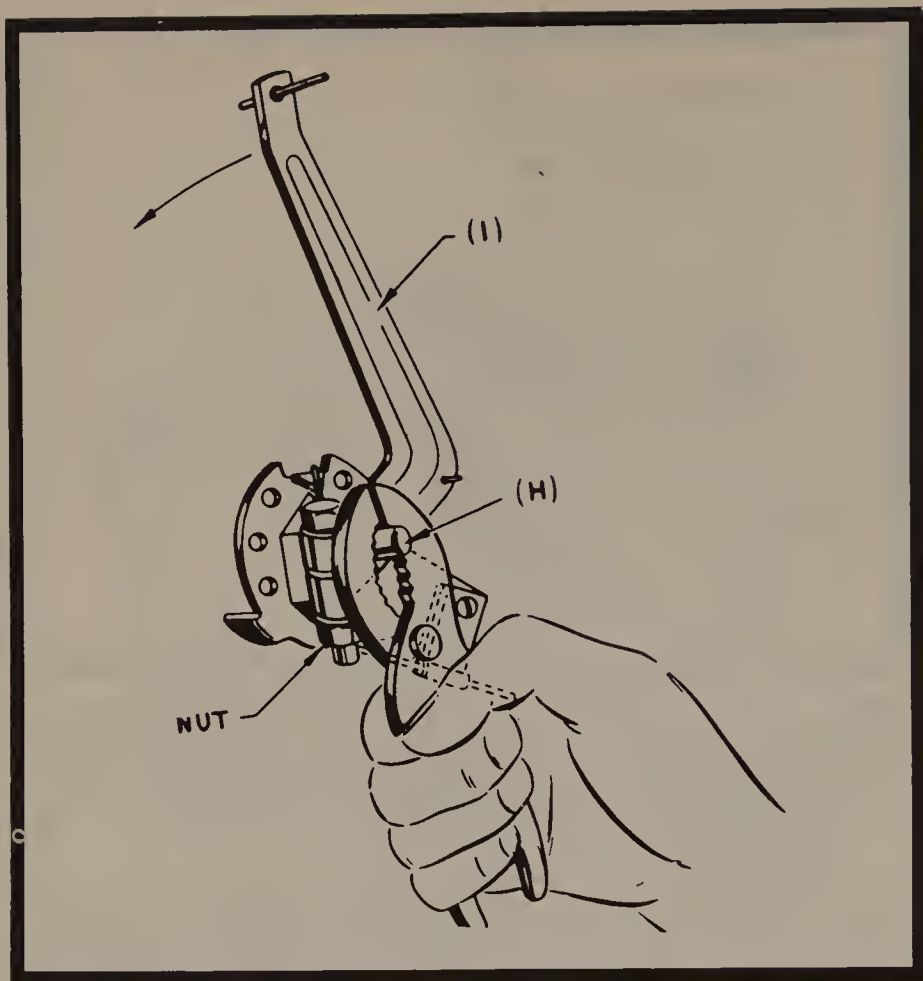
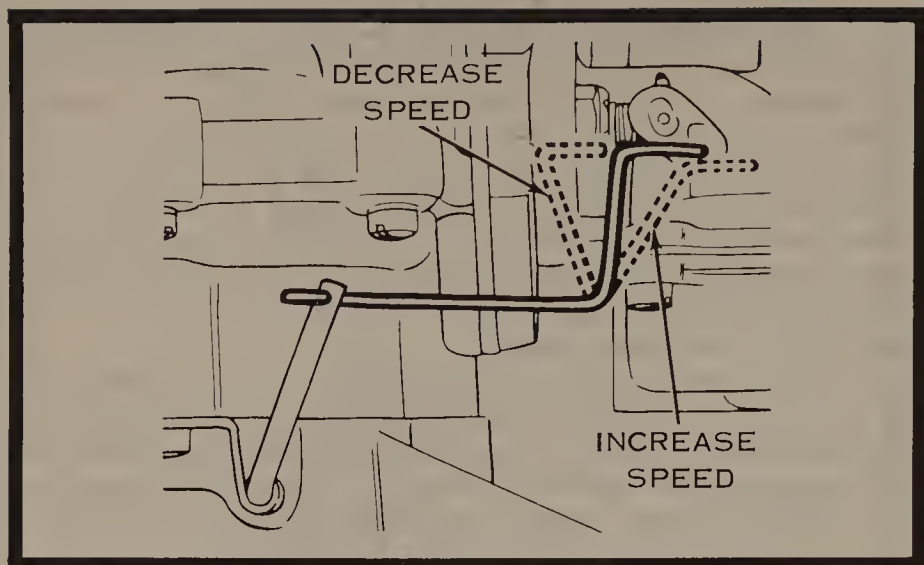

Fig. 7-18. Adjusting a Governor by Twisting the Governor Shaft, Kohler K91 Engine. (Courtesy Kohler of Kohler.)
Fig. 7-19. Adjusting a Governor by Bending the Actuating Link. (Courtesy Gale Products.)
4. Usually a provision for adjustment which may be done by twisting the governor shaft (Fig. 7-18); bending the actuating link (Fig. 7-19); or by changing the mechanical advantage of the mechanism by using alternate mounting holes for links and springs.
These governors are adjusted so that the throttle is wide open with the engine not running. Check maximum rpm with a tachometer. In Fig. 7-18, the nut which holds the governor shaft H to the governor arm I is loosened. The shaft is turned counterclockwise; the arm is pulled all the way to the left (away from the carburetor). The process is similar on the Tecumseh four-cycle. In Fig. 7-19, the governed speed on some Lawn-Boy engines is changed by bending the linkage. This engine may be equipped with a 3200 rpm governor return spring or a 2800 rpm spring.